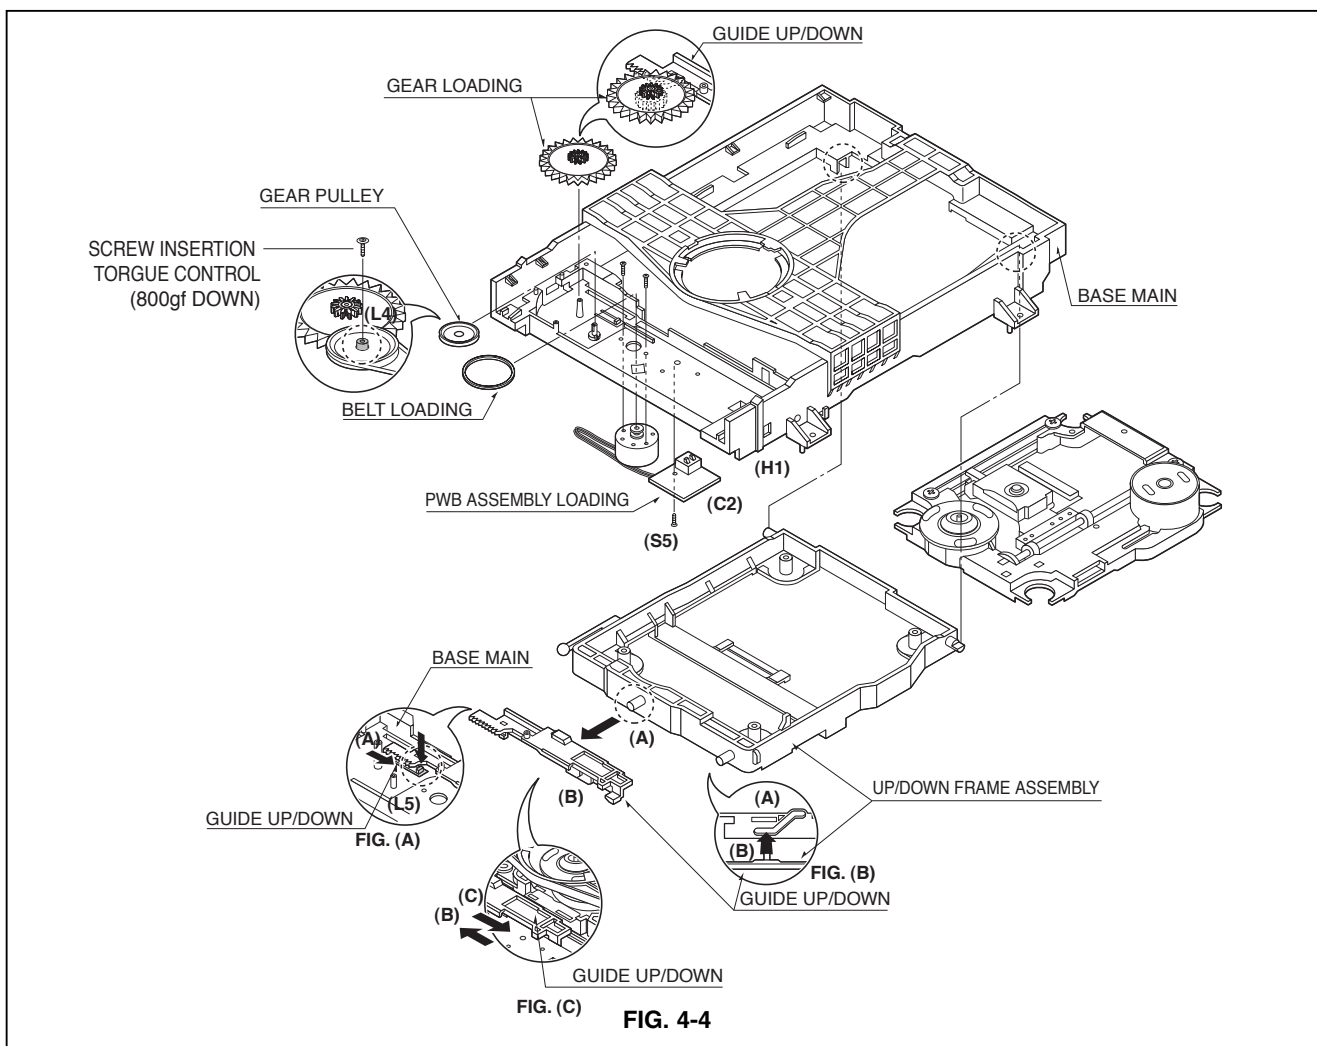

FIG. 4-4
5. FRAME ASSEMBLY UP/DOWN (FIG. 4-4)
- When reassembling move the Guide Up/Down in direction of arrow (C) until it is positioned as Fig.(C).
- When reassembling insert (A) portion of the Frame Assembly Up/Down in the (B) portion of the Guide Up/Down as Fig.(B)
6. BELT LOADING (FIG. 4-4)
7. GEAR PULLEY (FIG. 4-4)
- 1) Unlock the Locking Tab (L4) in direction of arrow (B) and then separate the Gear Pulley from the Base Main
8. GEAR LOADING (FIG. 4-4)
9. GUIDE UP/DOWN (FIG. 4-4)
10. PWB ASSEMBLY LOADING (FIG. 4-4)
11. BASE MAIN (FIG. 4-4)